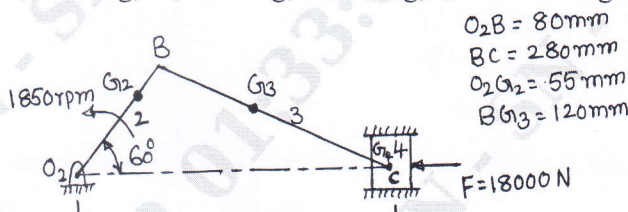

Fig.Q2(b)
- b. A slider crank mechanism of a single cylinder diesel engine shown in Fig.Q2(b) is subjected to a gas force of 18000 N. The crank rotates counter clockwise at a constant speed of 1850 rpm. Determine (i) Force F_{14} and F_{12} and the torque T_2 exerted by the crank shaft on the crank for equilibrium. (ii) Magnitude and direction of the shaking force and its location from point O_2 . Take $m_2 = 2.5\text{kg}$, $m_3 = 3.7\text{kg}$, $m_4 = 3\text{kg}$, $I_2 = 0.0055\text{ kg-m}^2$, $I_3 = 0.041\text{ kg-m}^2$.